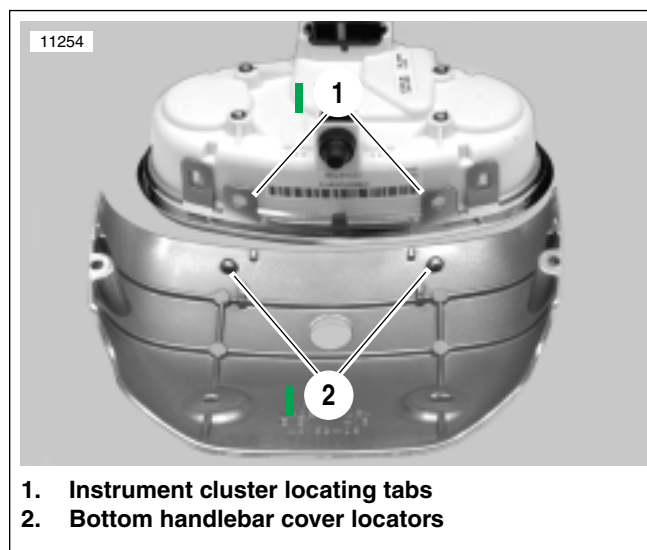

Figure 8-59. Instrument Cluster Fasteners
2. See Figure 8-59. Remove two instrument cluster fasteners (one per side) and remove instrument cluster cover.
3. See Figure 8-59. Install instrument cluster cover and install instrument cluster fasteners. Tighten to 1.3-1.9 Nm (12-17 in-lbs).